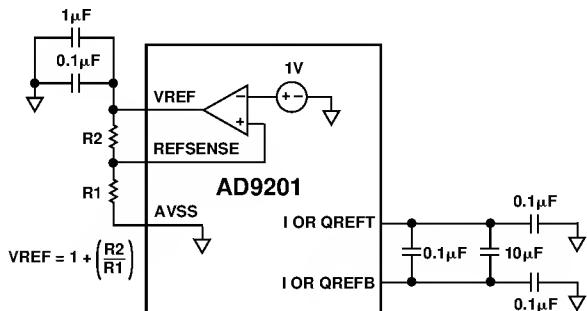

Figure 24. Programmable Reference
**Externally Set Voltage Mode (Figure 24)**—this mode uses the on-chip reference, but scales the exact reference level though the use of an external resistor divider network. VREF is wired to the top of the network, with the REFSENSE wired to the tap point in the resistor divider. The reference level (and input full scale) will be equal to  $1 \text{ V} \times (R1 + R2)/R1$ . This method can be used for voltage levels from 0.7 V to 2.5 V.